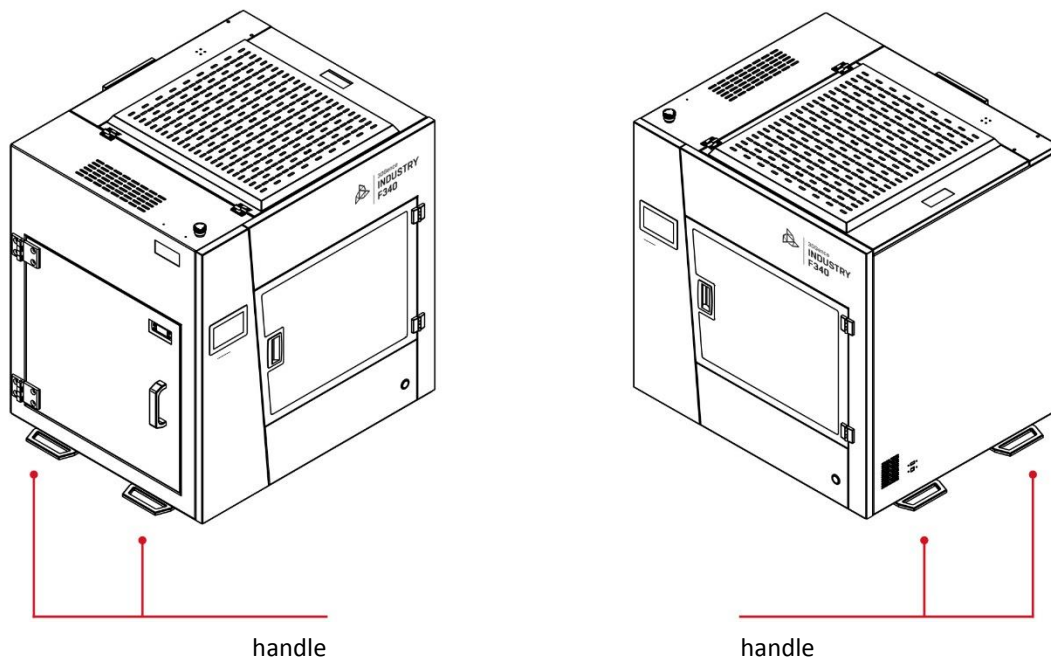

Fig. 4 Locations of handles for printer handling
- the printer should be lifted only by the holders designated for this purpose (fig. 4, 5). Do not lift the printer by any other elements.